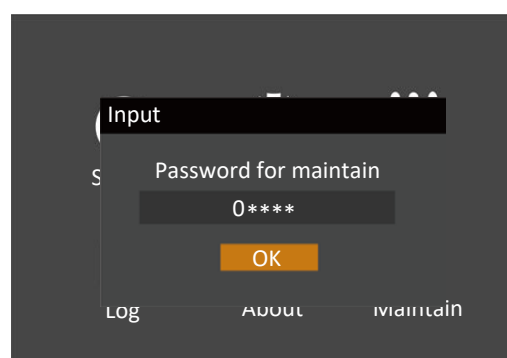

Figure 5-19 Inputting password
2. Press the  key, the interface shown in Figure 5-19 will appear.